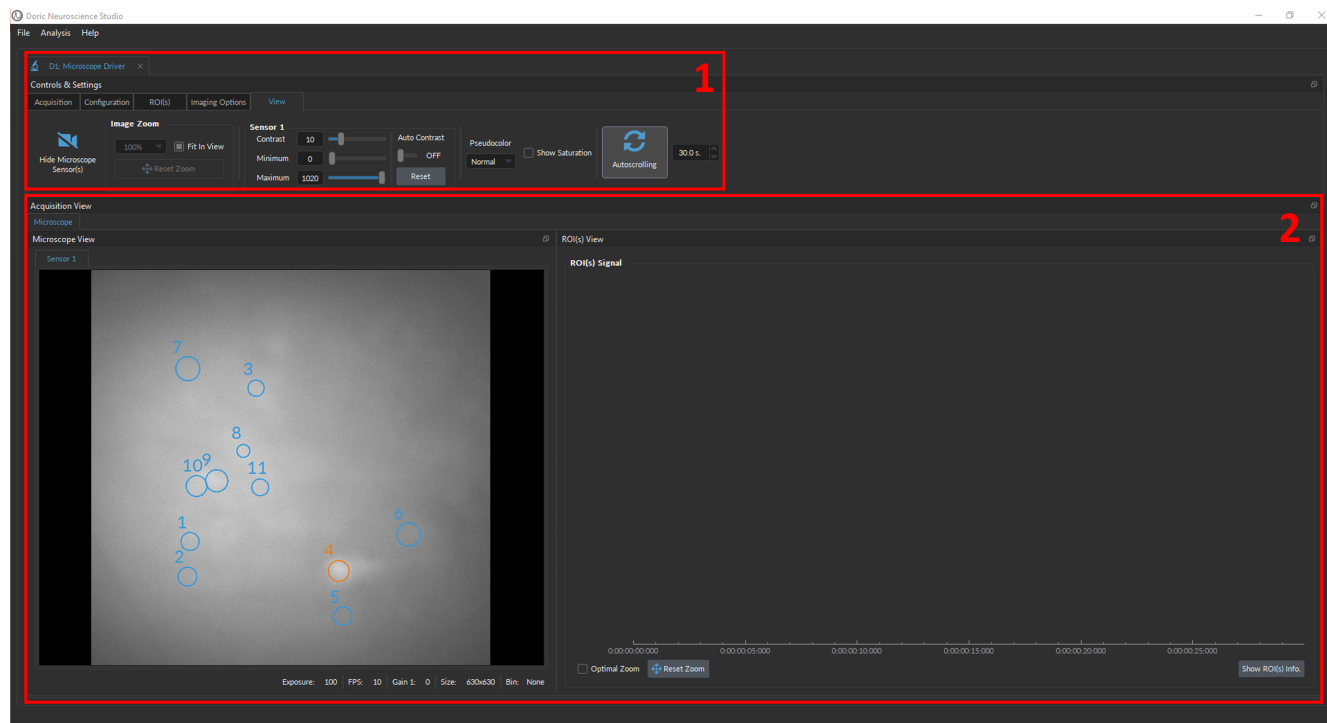

Figure 7.4: DNS user interface
The **Microscope Driver** interface (Fig 7.4) of *Doric Neuroscience Studio* software is split into two sections: **(1) Control and settings tabs** (Section 7.3) are used to manage different elements of the software (Acquisition, Configuration, and View); and (2) the **Acquisition view** (Section 7.4) displays visualization of the **Microscope View** (Section 7.4.1) and the **ROIs View** (Section 7.4.2).